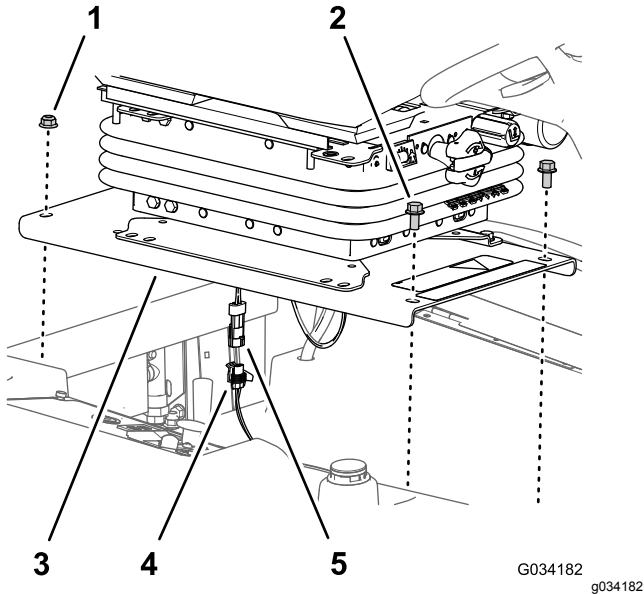

Figure 33
1. Remove the 2 flange-head bolts (3/8 x 3/4 inch) at the that secure the front of the seat plate to the chassis of the machine (Figure 33).
2. Remove the 2 flange locknuts (3/8 inch) at the that secure the back of the seat plate to the chassis of the machine (Figure 33).
4. Disconnect the 2-pin connector for the operator-presence switch harness from the 2-socket connector of the machine wire harness (Figure 33).
2. Connect the 2-pin connector for the operator-presence switch harness into the 2-socket connector of the machine wire harness; refer to Figure 33 .
3. Align the rear holes in the seat plate (Figure 33) with the 2 carriage bolts (3/8 x 1 inch) in the radiator channel.
4. Assemble the seat plate (Figure 33) to the carriage bolts with the 2 flange locknuts (3/8 inch) that you removed in step 2 of Removing the Seat and Seat Plate (page 39).
5. Align the front holes in the seat plate (Figure 33) with the threads of the tank rods.
6. Assemble the seat plate (Figure 33) to the tank rods with the 2 flange-head bolts (3/8 x 3/4 inch) that you removed in step 1 of Removing the Seat and Seat Plate (page 39).